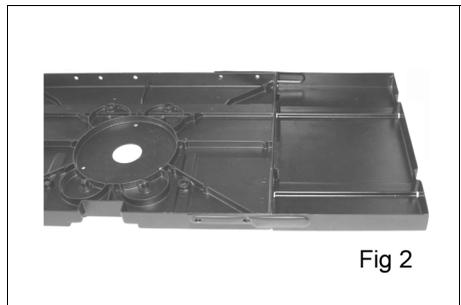

Fig 2
2. Position one table top extension (item 02) as in Fig. 2.